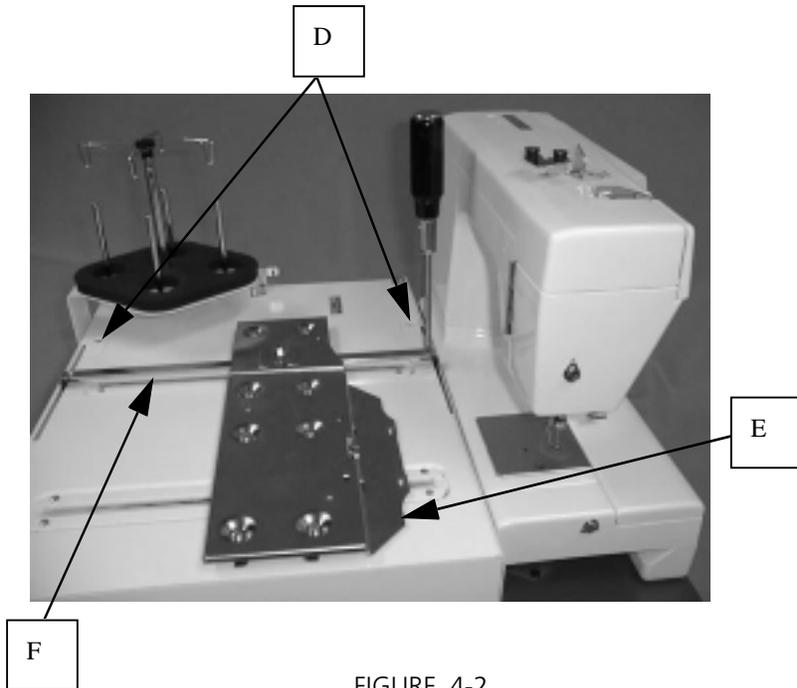

FIGURE 4-2
2. Remove X-guide bar(F) and carriage(unit) (E) by removing two countersunk screws 4x5(D). Fig.4-2.